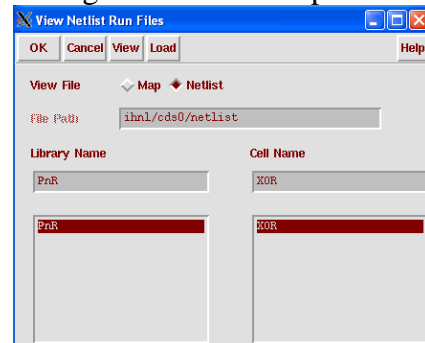

Fig 9: View Netlist Run Files
- In the “Virtuoso Schematic Composer Analysis Environment for Verilog-XL Integration” window, select **File >> View Netlist Result >> Netlist Run Files ...**. The “View Netlist Run Files” window (Fig. 9) appears.